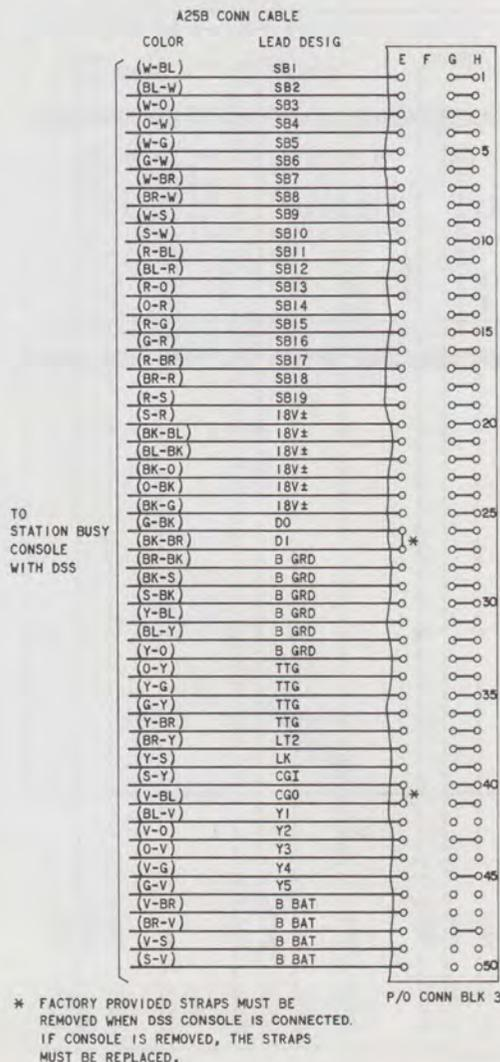

Fig. 45—Connections For Station Busy Console (6A1) With DSS
4.85 The A25B connector cable from the station busy/DSS console is cut down on connecting block 3, column E, using standard cutdown. See Fig. 45 for connections. *The D0 to D1 and CG0 to CG1 straps on connecting block 3 must be removed when the console is installed.*